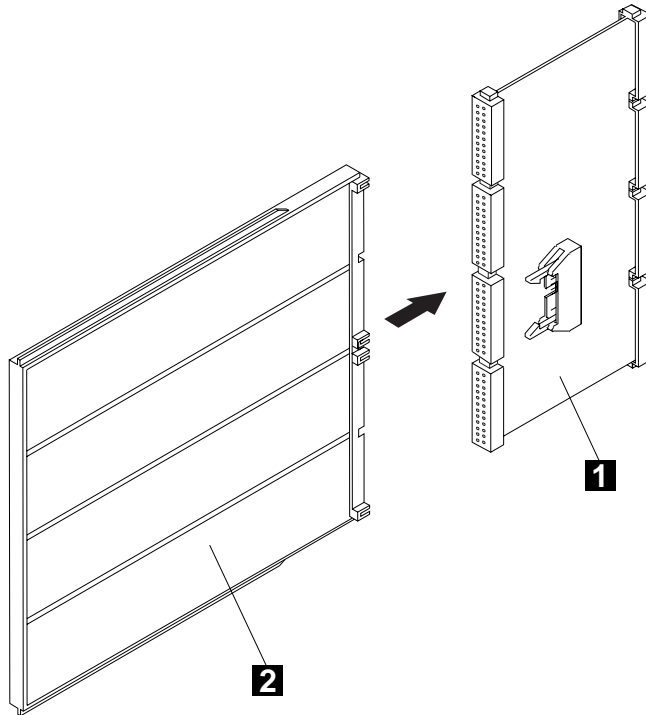

Figure 4-28. Installing a DICO Card Using a Dummy Card
- Step 7. \_\_\_\_ Then, using a dummy card **2** PN 2733278 push and put the DICO cards **1** in place (see Figure 4-28).